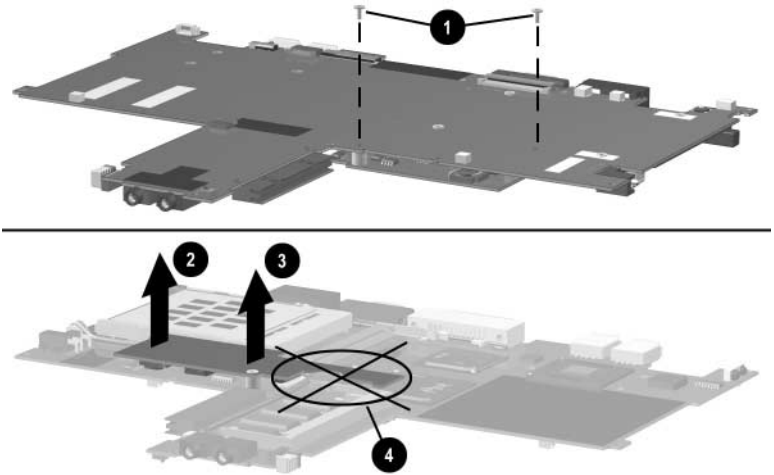

Figure 5-18. Removing the Charger Board
3. Remove the two silver PM1x6 screws ❶ that secure the charger board to the system board (Figure 5-18).
5. Lift up on the left front side ❷ and center ❸ of the charger board to disconnect it from the system board.